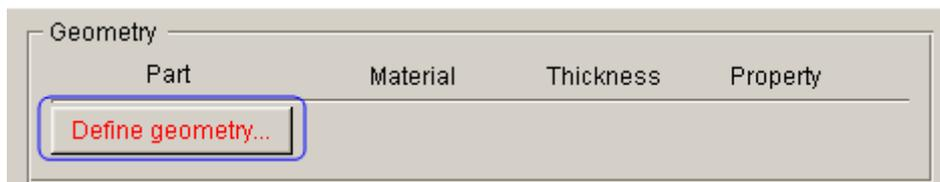

Figure 7.6 Define blank
2. Then, click **Define geometry...** button from **Geometry** field in blank definition interface. See Figure 7.6.